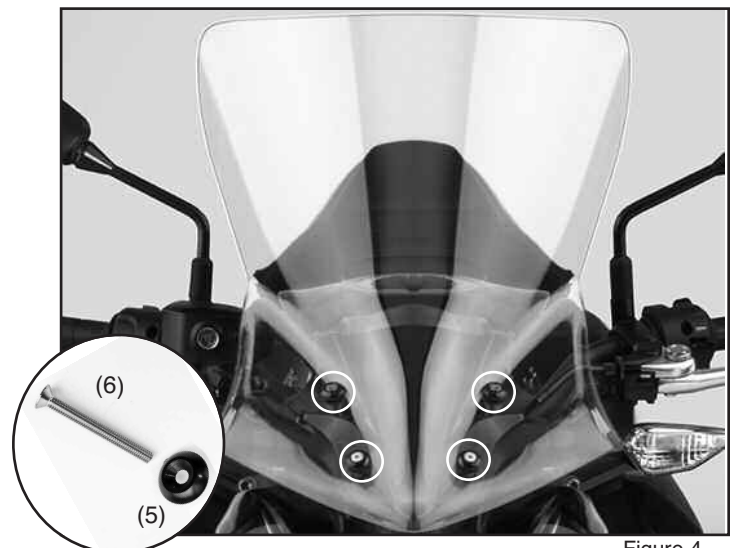

Figure 4
5. Make four screw assemblies using one each: Trim Cap (5) M5 Screw (6) **Figure 4**
7. Using the four screw assemblies, install the VStream Windshield onto motorcycle over top of cowl. **(3mm Hex Wrench) Figure 4**